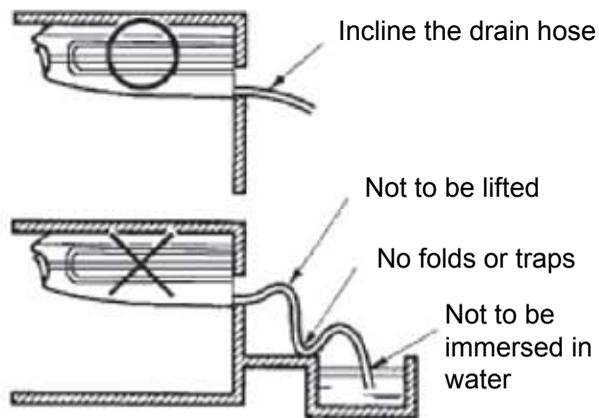
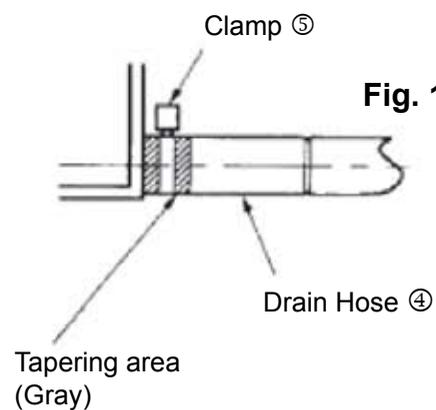

Fig. 10
Fig. 11
- (1). Drain piping.
- Make the drainpipe as short as possible and slope downward at a gradient of at least 1/100 to prevent air pockets. (Refer to Fig. 10).
- Use the attached drain hose ④ and clamp ⑤.
- Insert the drain hose completely into the drain socket. Tighten the clamp within the range of gray tape until the screw head is less than .15 inch from the hose. (Refer to Fig. 11, Fig. 12).